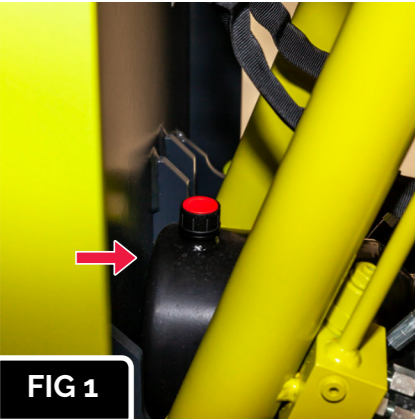

FIG 1
- ▶ The skip MUST be in the lowered position with all hydraulic cylinders closed. Engage the emergency stop button and remove key from ignition. Screw tank cap anti clockwise and check the level indicator (fig 1 to fig 3).